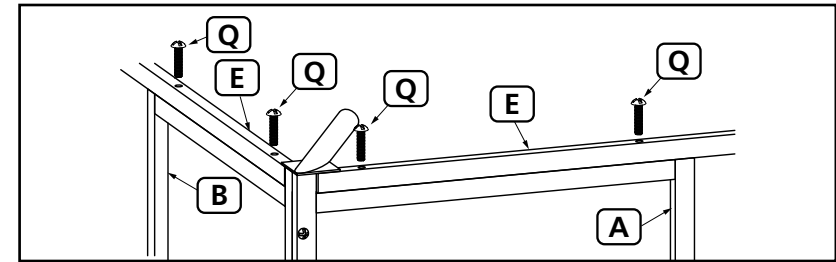

Fig. 2
Use Screws M6x30 mm (Q) to connect Cross Beam (E) to Left Panel (B) and Right Panel (A); see Fig. 2.